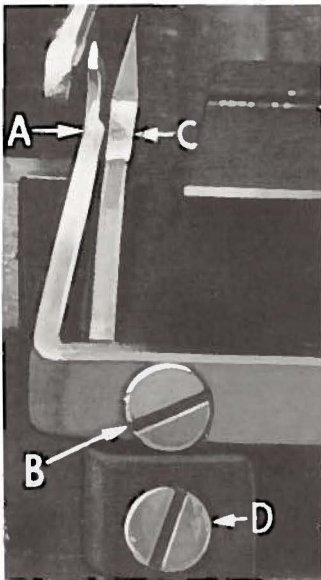

Fig. 6
Set rear needle guard (A, Fig. 6) as high as possible, without interfering with either lower looper or movement of lower knife holder, but still in position to deflect needles forward .002-.004 inch. Screw (B) is used to set rear needle guard. Make sure there is no interference between rear needle guard and lower looper.
Assemble front needle guard (C, Fig. 6). When lower looper is springing needles off rear needle guard, set front needle guard as close as possible to needle without touching. Screw (D) is used to adjust and set front needle guard. After this setting make sure there is no interference between needle guards and differential feed dog.